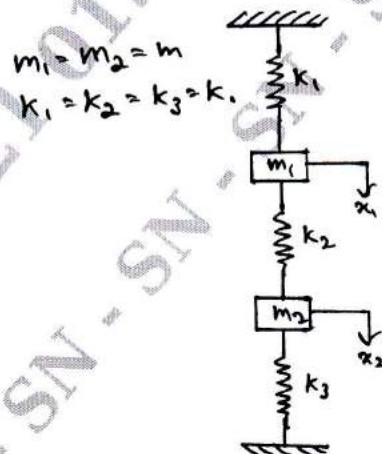

Fig.Q.7(b)
b. For the system shown in Fig.Q.7(b).